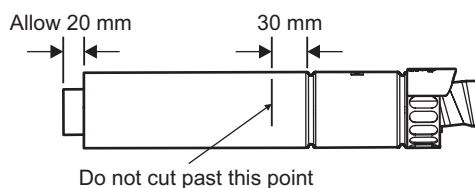

**Fig. 5.9 - Rear flue**
**Note:** Check the flue terminal protrudes 120 mm out of the wall and the inner duct of the terminal is positioned correctly (see Fig. 5.9).